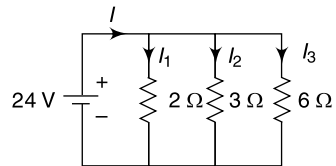

Fig. 4.19 Circuit of Ex. 4.8
4.8 Calculate the total current supplied by the battery in Fig. 4.19.
4.12 In the circuit shown in Fig. 4.19 find the power dissipated across each resistor and the total power.